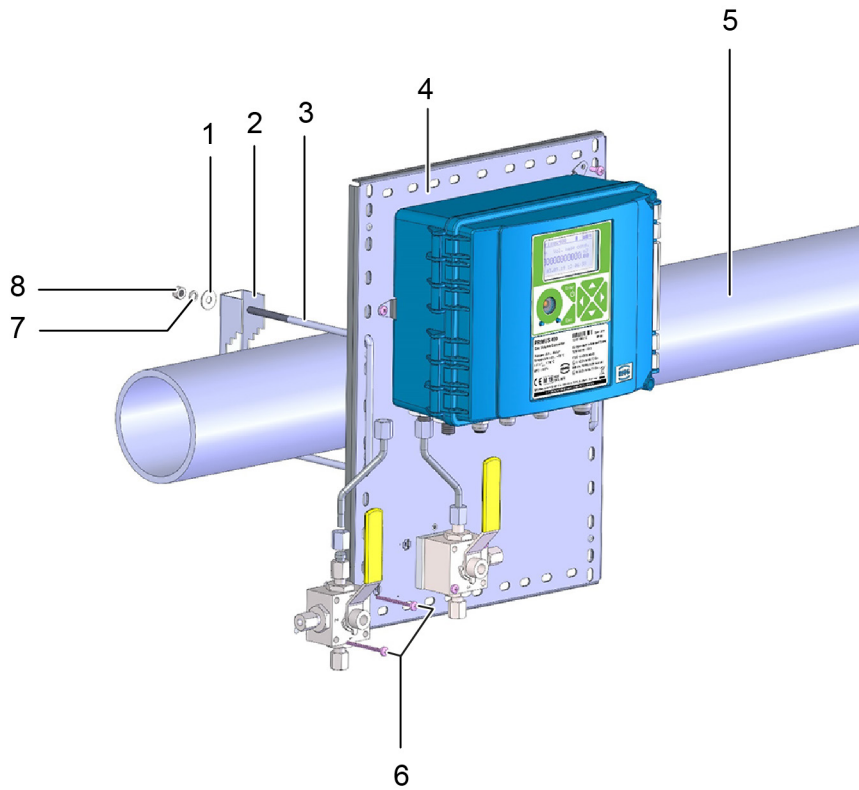

Fig. 7: Mounting the device on a pipe
1. Insert the clamps (fig. 7, item 3) with spacings corresponding to the pipe diameters through the openings in the mounting plate (fig. 7, item 4) and guide them over the gas pipe (fig. 7, item 5).
2. Attach fasteners (fig. 7, item 2) with washers (fig. 7, items 1 and 7) and M6 nuts (fig. 7, item 8) to the free ends of the clamps in order to fix the mounting plate in the intended position on the gas pipe.
The data logger connected via the 3-way valve is shown in fig. 7. Pressure tube 6x1 with cutting ring pre-pressed on both sides is first thoroughly inserted into the pressure inlet of the device and secured with M12x1,5 ERMETO nut. The other end of the tube is attached to the 3-way valve working outlet fitted on the mounting plate and the nut is gently tightened. The last operation is tightening the nuts on both sides of the connecting pressure pipe. Excessive force must not be applied when tightening the key, otherwise the thread will be damaged.